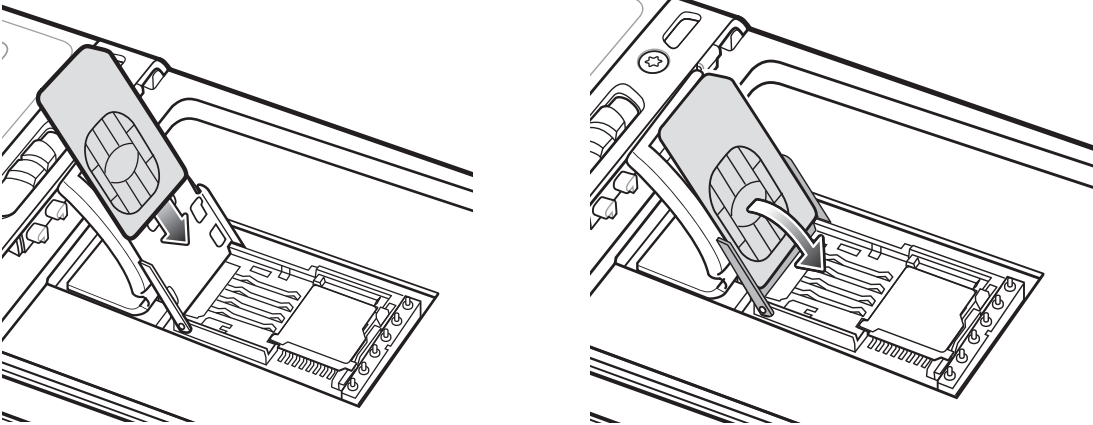

Figure 1-4 Inserting the SIM Card
4. Insert the SIM card, as shown in Figure 1-4 ensuring that the card slides into the holding tabs on each side of the door.